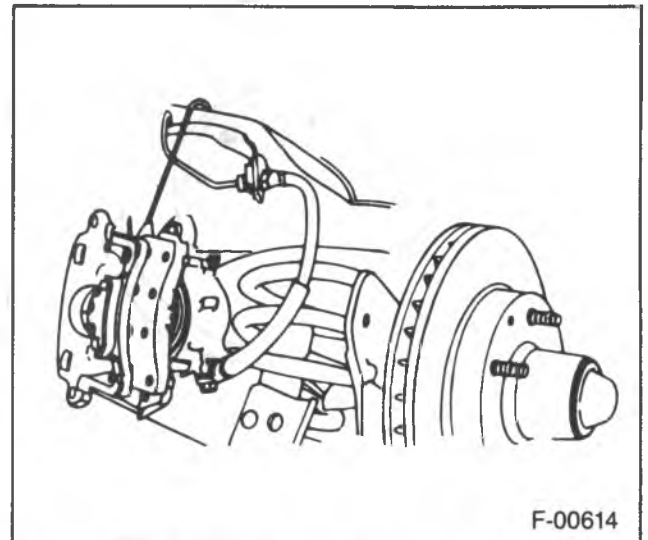

Figure 6 — Suspending the Caliper During Service
- Suspend the caliper from the suspension (figure 6).